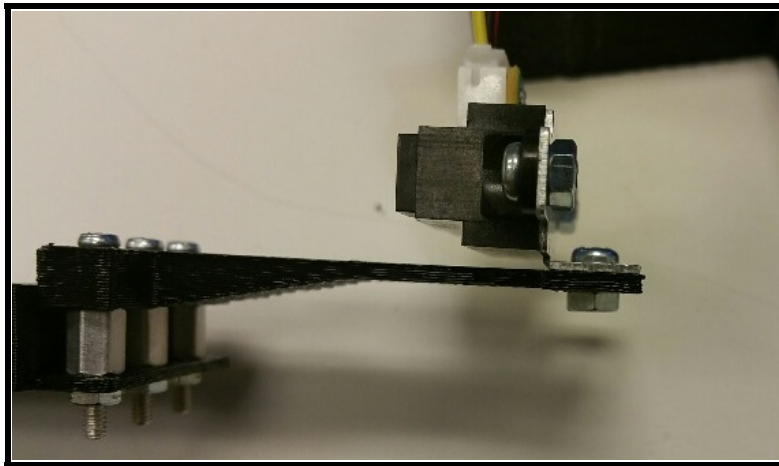

Figure 2.10: IR Connection to the Beam
16. Connect the IR sensor mounting bracket to the IR attachment, using one M3x5mm screw and nut in the middle hole, as in Figure 2.10. *Note:* You can also mount the IR sensor to the attachment using the two adjustable slots, which would require using two M3x5mm screws and nuts.